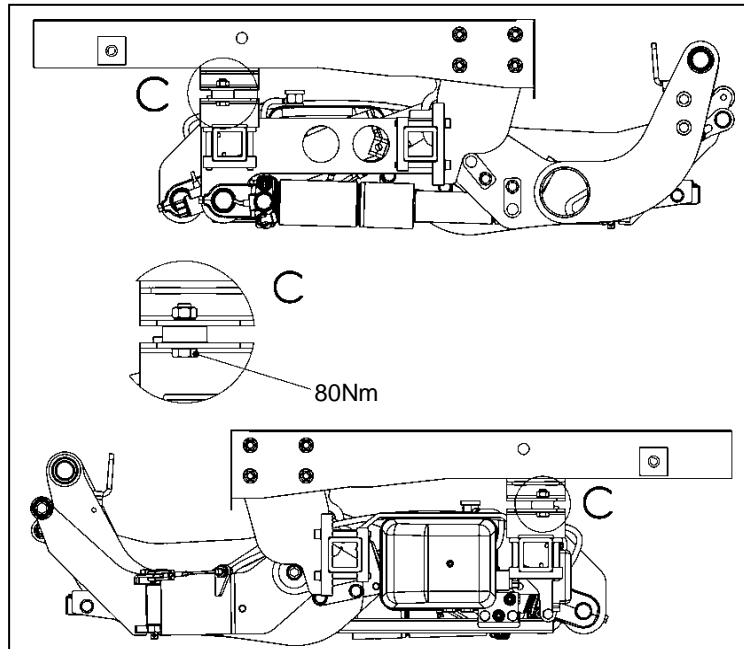

Figure 36
- Secure the front installation adapters to the lifting gear and tighten to a torque of 80 Nm (see Fig. 36).